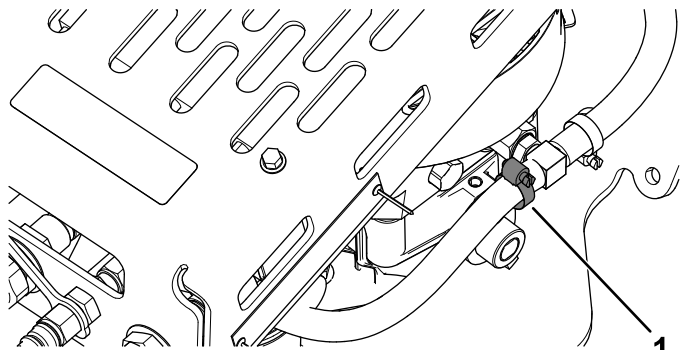

Figure 7
8. Secure the tee fitting to the hose assembly using the hose clamp (Figure 7).